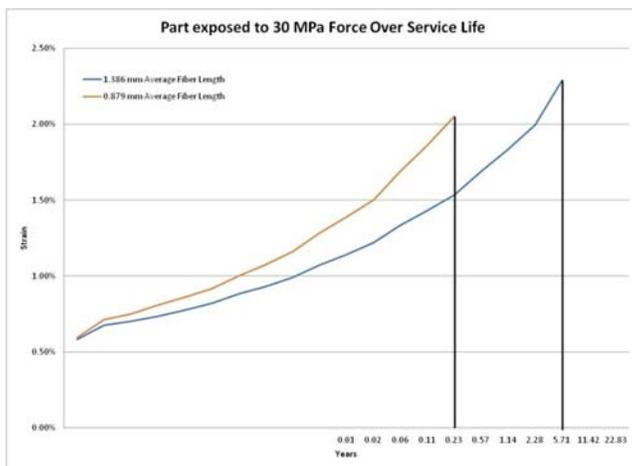

Figure 4: Long-term data.
Some materials may have a naturally higher loss modulus, and may dissipate energy locally, but not through the part. Not being able to effectively translate the energy through the part, may result in a poor weld interface. This phenomenon can be seen in **Figure 4**. The higher loss modulus material will heat up at the point of contact with the horn, whereas the lower loss modulus material will translate the ultrasonic motion and energy to the weld interface and begin to heat up there. Adding a filler material, such as glass fiber, may stiffen the polymer enough to better transfer energy and create a quality bond interface. It is also important to know if the material needs to be dried prior to welding. For example, polyamides are very hygroscopic. Because the moisture will effectively reduce the stiffness of the polyamide, they generally need to be dried before welding.
*Figure 4: Behavior of a higher loss modulus polymer as compared to a lower loss modulus. An appropriate blend of loss modulus and welding frequency is required to place the localized heating from the welding process at the interface of the polymers.*
term life expectancy of the part exposed to 30 MPa is shown in **Figure 4**. The data showed that an average fiber length change from 1.386 mm to 0.879 mm resulted in the 96% drop in the life expectancy. This is a dramatic shift in properties. Therefore, an important aspect when utilizing glass filled materials, is to determine how glass fiber lengths will influence the long-term properties and measure the glass fiber length within the part.